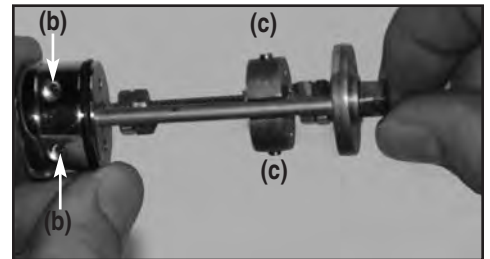

Figure 12
1. Remove Actuator Guide from Housing. (**3/32" Hex Key Wrench**) **Figure 12**